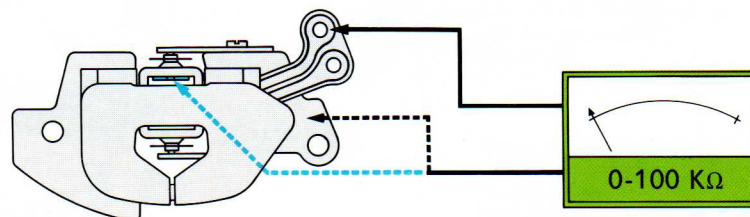

Fig. 15
9.12. Check the insulation of coil in relation to the finger and in relation to the metal carcass (Fig. 15). The resistance must be $>$ (bigger) than 100 K Ω .